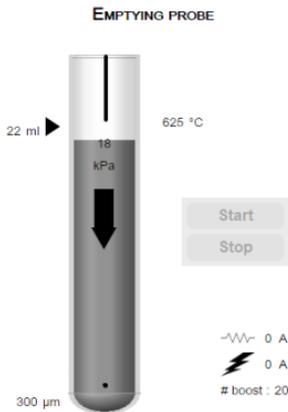

Figure 43: Terminate measurement phase “emptying probe”
2. Press the Stop button in the Graphical Analyzer Status window (see “Figure 43: Terminate measurement phase “emptying probe””).
3. The different phases of the “Terminate measurement” sequence are progressively shown in “Figure 43: Terminate measurement phase “emptying probe”” below.